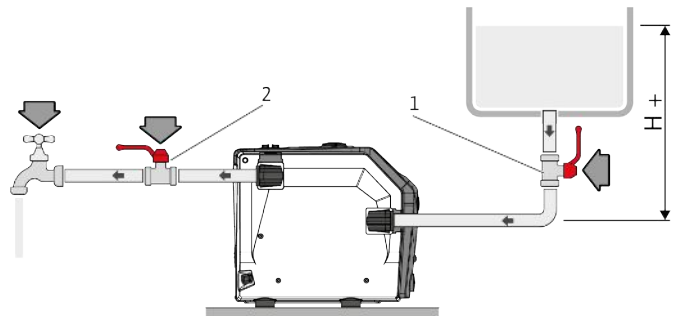
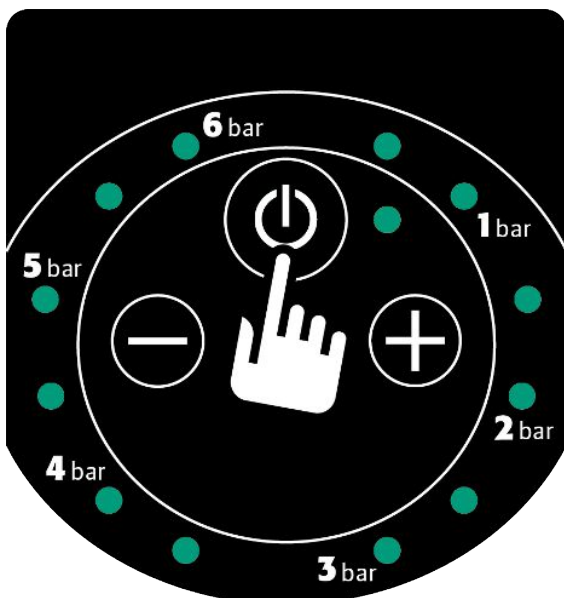

Fig. 8: Load operation
Fig. 11: Operating button On/Off
1. If the product is installed in load mode (Fig. 8), press the “On/Off” operating button once (Fig. 11).
2. Press the “On/Off” operating button on the control panel (Fig. 11).